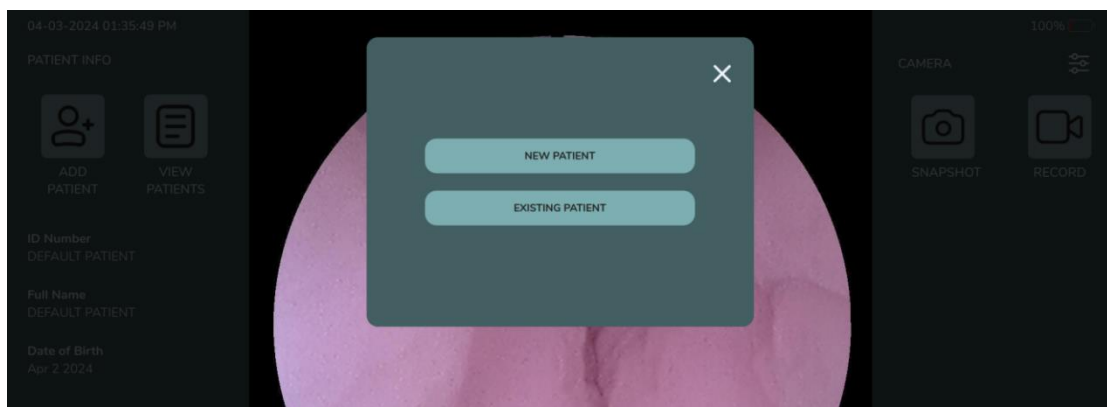

Figure 10 The Add Patient window
- Basic method: when there's no quick menu shown on the screen, tap anywhere on the screen to show the Home screen, then press the Add Patient icon  on the upper left corner and you will see a small window popping out. As illustrated in Figure 10 below, you can tap the New Patient button to create a new patient account and input the patient ID, patient name, and DOB (Date of Birth), or you can choose to load an existing patient in the database by pressing the Existing Patient button.